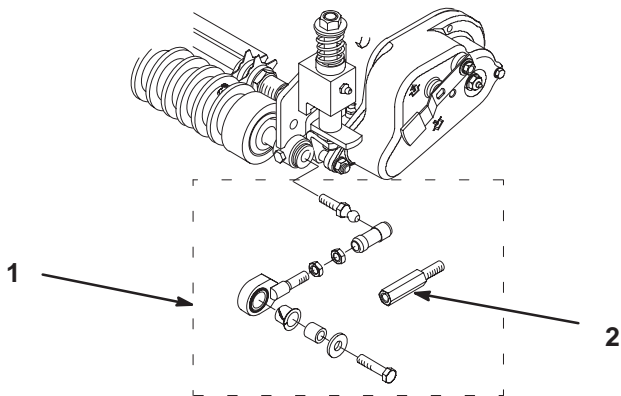

Figure 12
35. When installing the groomer kit and cutting unit on a Greensmaster 3200 traction unit, install the Pull Link Kit, Toro Part No. 94-9630, per the instructions supplied with the kit, but do not use the center extension in kit (Fig. 12). Adjust the pull link to the shortest length.